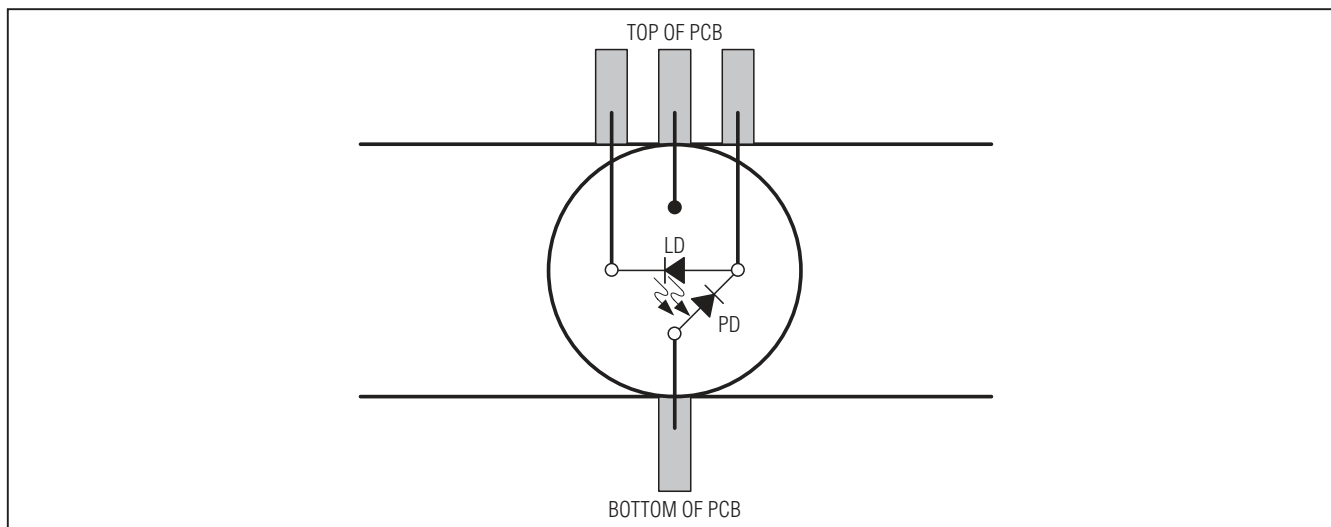

Figure 1. Laser Attachment
- Solder a laser to edge connection D5. See Figure 1 for a view of how the laser should be mounted on the EV kit. Be sure to keep the laser leads as short as possible to minimize parasitic inductance.